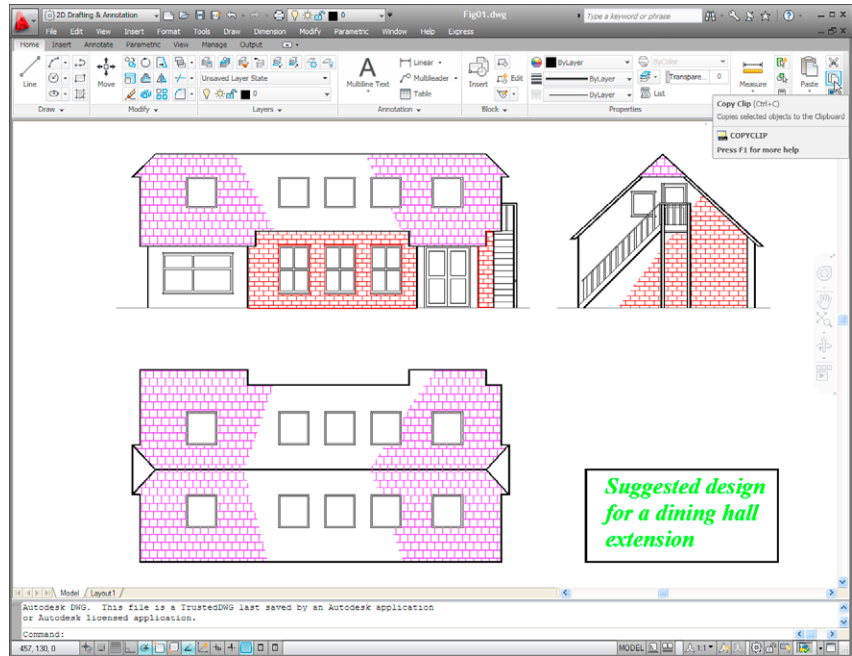

Fig. 10.1 A drawing in the AutoCAD 2011 with **Copy Clip** selected
1. Open any drawing in the AutoCAD 2011 window (Fig. 10.1).